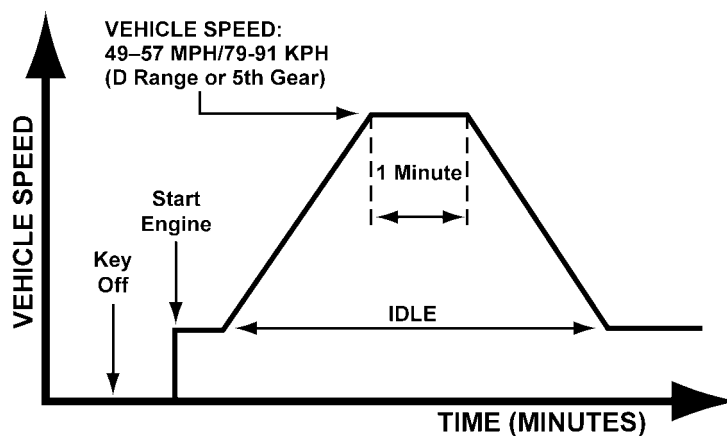

Figure MA000-22
3. Drive the vehicle as shown in Figure MA000-22.